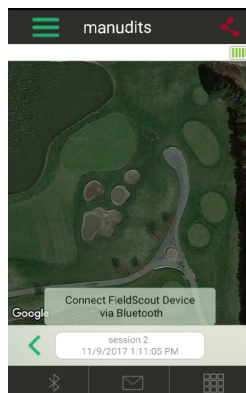

Figure 3. Bluetooth Connect button (freeform)
b. For Freeform mode, the app will immediately transition to the **Take Reading** screen (Fig. 3).